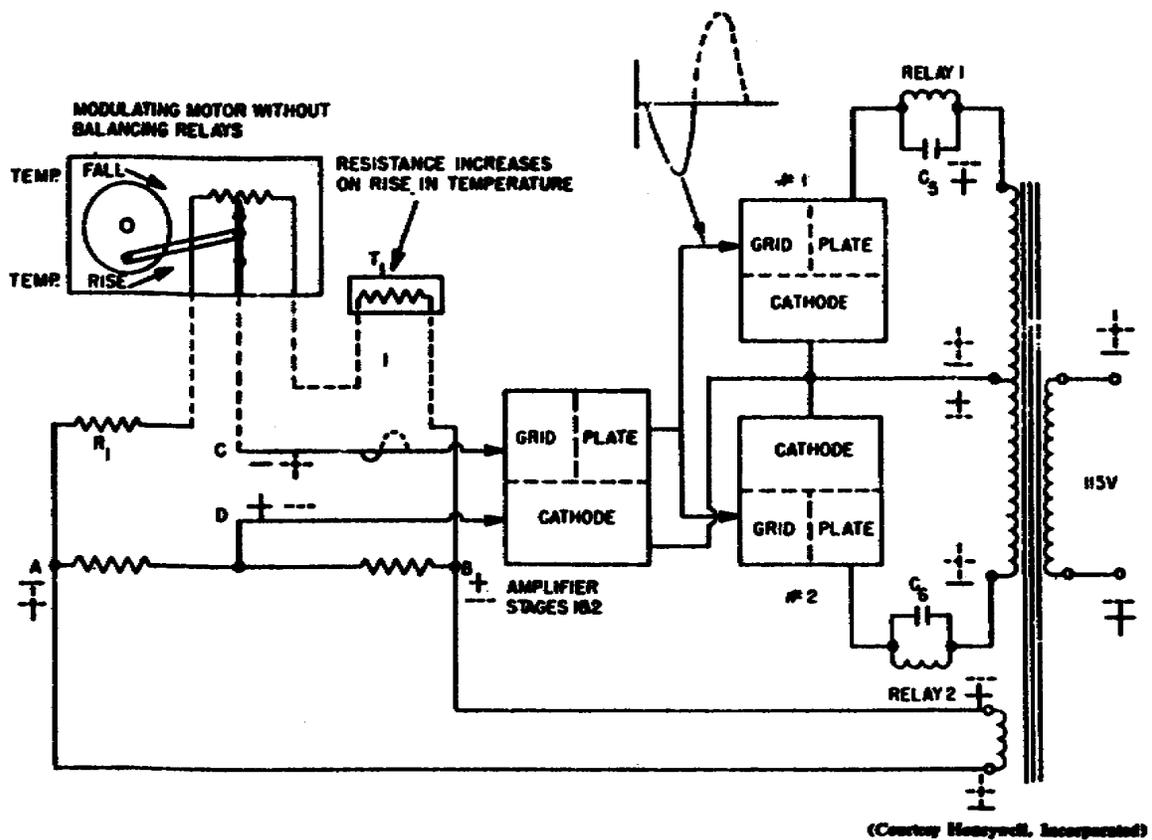

Figure 132. Modulating control.
10. For modulating control, illustrated in figure 132, a modulating motor is used with a balancing potentiometer. The balancing potentiometer is wired in series with the thermostat resistor. Its purpose is to bring the bridge back into balance (no voltage between points C and D) when a deviation has been corrected. Assuming a rise in temperature at  $T_1$  and the polarity shown by the solid symbols, point C will be negative. Neither of the discriminator tubes will conduct because the control grids